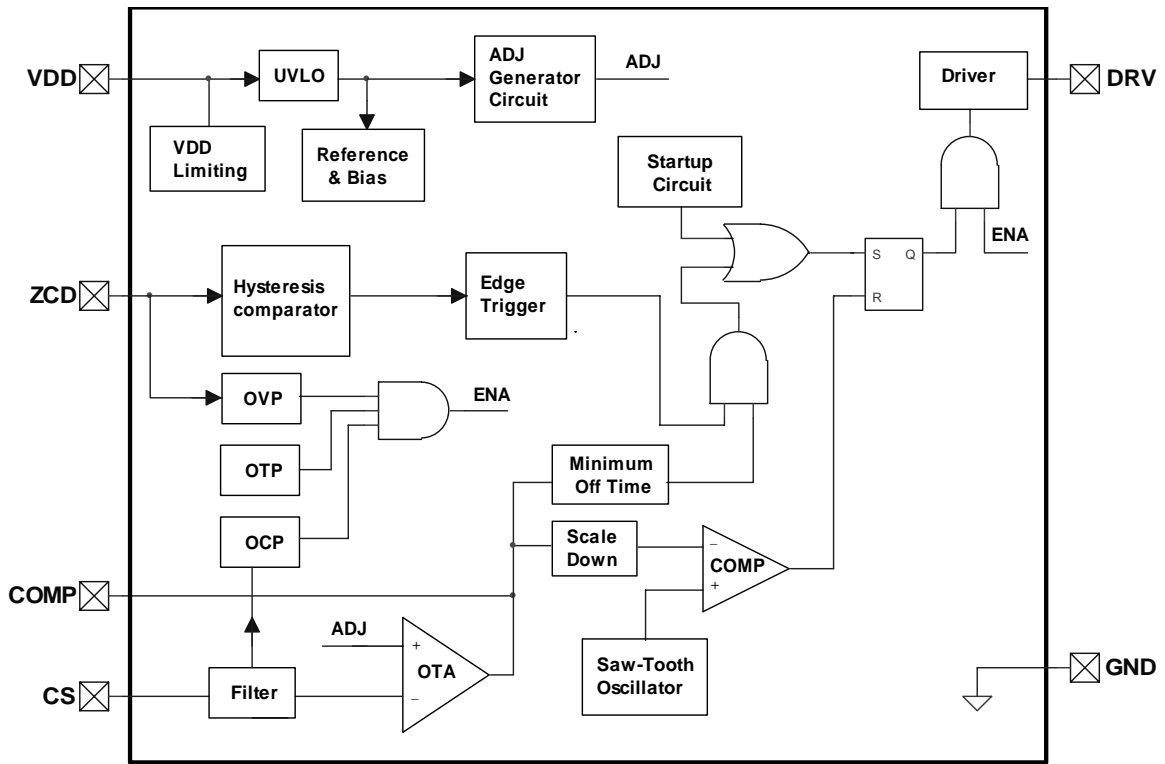
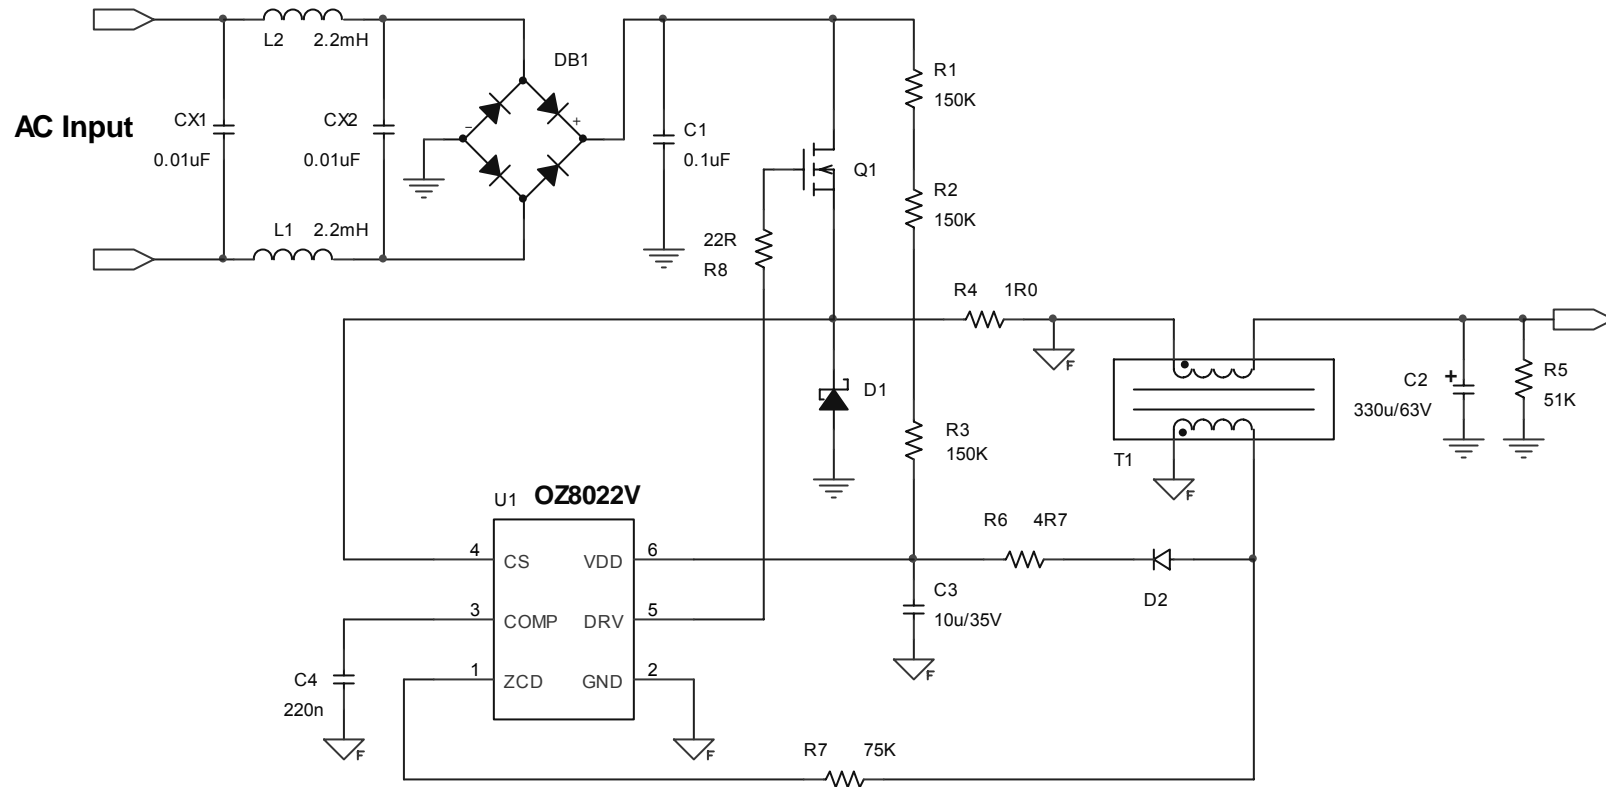

Figure 1: Block Diagram
Figure 4: Typical Application Circuit
- It is recommended that the customer contact their local O2Micro Field Application Engineer (FAE), if the application is significantly different from the Reference Application Circuit illustrated in Figure 4, Page 10.
OZ8022V is a controller for Buck converter applications utilizing quasi-resonant conversion technique. It is optimized for high brightness LED driver applications with Power Factor Correction. It operates near the Discontinuous-Mode and Continuous-Mode operation of the inductor. It provides a high conversion efficiency and lower EMI for the AC/DC converter application. Refer to Figure 1, Page 3, and Figure 4, Page 10 for the following discussions. All parameters mentioned below are typical values.
The application circuit in Figure 4 is recommended to operate at the output voltage range between 10V to 40V and 85Vac-265Vac line input. The LED current is the average of the inductor current. The current at CS pin is a saw-tooth waveform modulated with the line frequency signal, it is not a DC value and the gain of the internal OTA is not uniformed within the line-frequency period. The equivalent ADJ voltage range is between 208mV and 256mV defined in the electrical characteristic.
Note 1: If input voltage range is from 85VAC to 265VAC with Figure 4 schematic, recommended LED voltage should be between 10V to 40V.